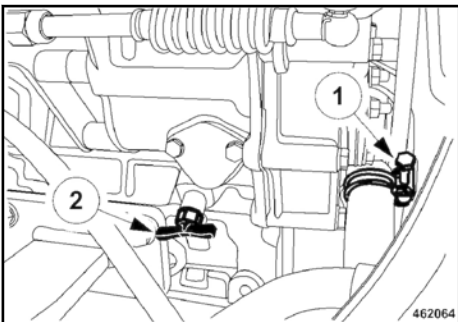

Fig. 163
Open the clamp (1) ↪ Fig. 163 and pull off the radiator hose.